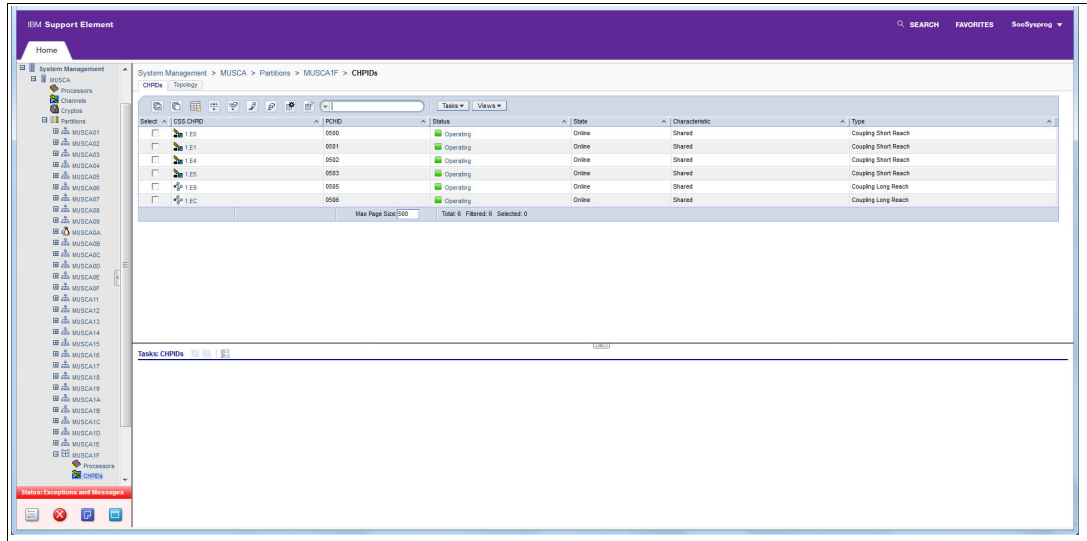

Figure 5-33 System Management: Single Object Operation
11. Click **CHPIDs** to display the CHPID list specific to this LPAR (see Figure 5-33).